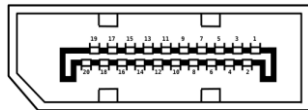

Figure 3-32: DP Connector
- CN Location:** See **Figure 3-32**